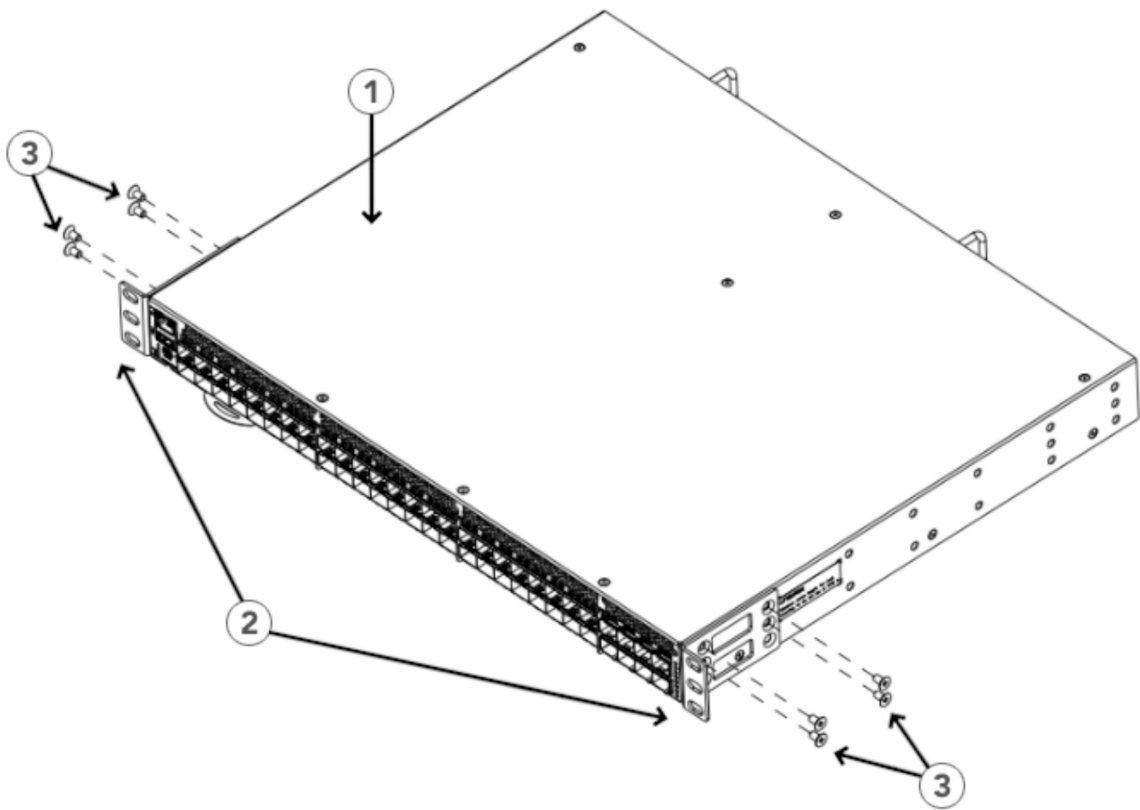

Figure 16. Attaching the Front Brackets
1. Position the right front bracket with the flat side against the right side of the device, as shown Figure 16.